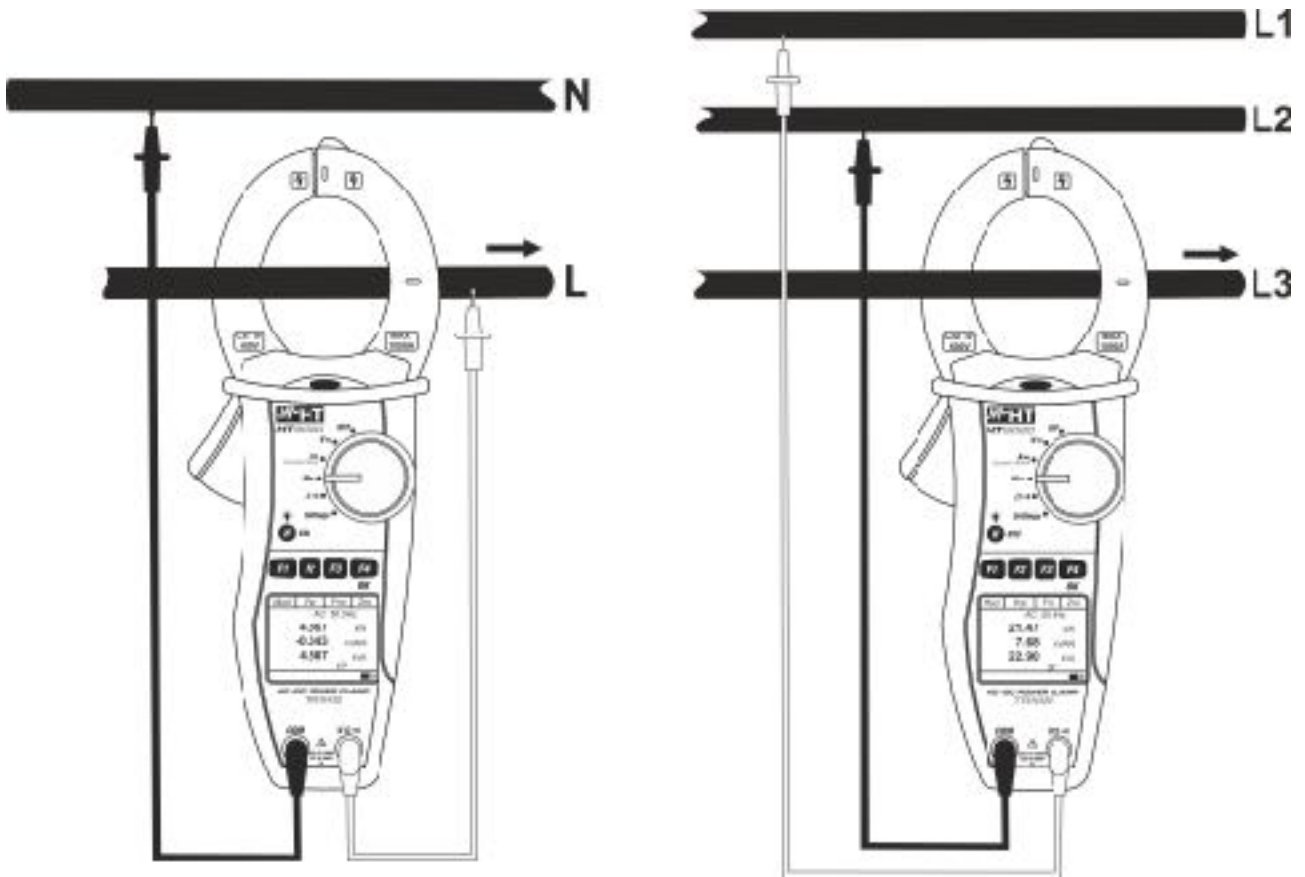

Fig. 13: AC/AC+DC power measure on Single phase and balanced Three phase systems
- Connect red cable to input lead **V $\Omega$** ) and black cable to input lead **COM** then perform the connection as indicated in Fig. 13 depending on the type of system under test. Put the phase cable into the clamp jaws respecting the direction of current indicated by the arrow (see Fig. 13). Connect the cable to the middle of the clamp jaws, in order to get accurate measurements. Use the marks as a reference (see Fig. 2)
- The value of AC powers (active , reactive and apparent) is displayed. The instrument allows the evaluation of possible DC components overlapped on a generic alternate waveform signal (AC+DC) and this can be very useful for measurements on impulsive signals typically of non-linear loads (e.g.: welders, electric ovens, etc.) Press **F2 (Par)** and select with the same key the "PF-DPF" option for the power factor (PF) and Cosphi (DPF) measurement. Confirm with **F4 (OK)**. The following screen is displayed: